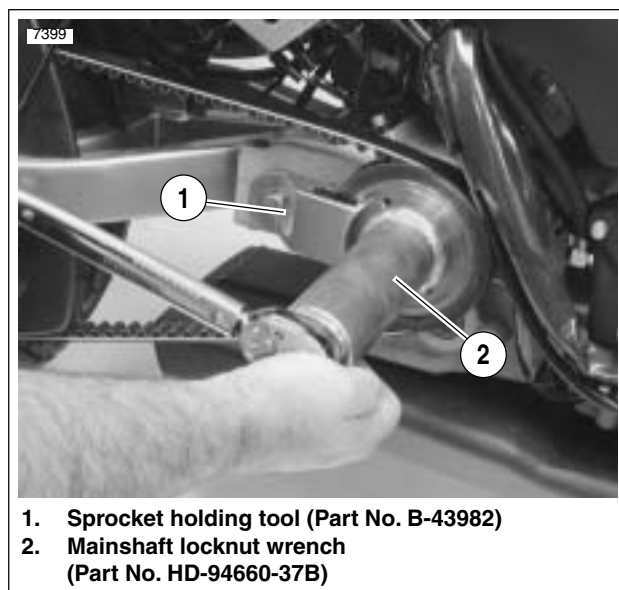

Figure 6-59. Transmission Sprocket Tightening
6. See Figure 6-59. Use MAINSHAFT LOCKNUT WRENCH (Part No. HD-94660-37B) and a torque wrench to tighten sprocket nut to 50 ft-lbs (68 Nm) INITIAL torque, ONLY.